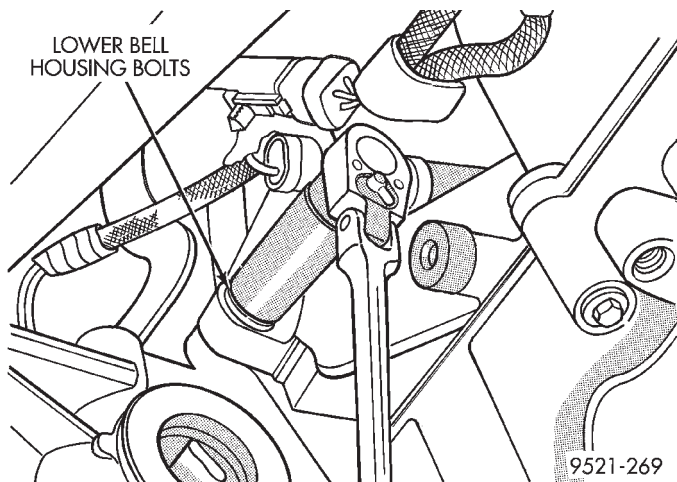

Fig. 38 Lower Bellhousing Bolts
(29) Remove lower transaxle to engine bellhousing bolts (Fig. 38).
(30) Remove transaxle from vehicle.